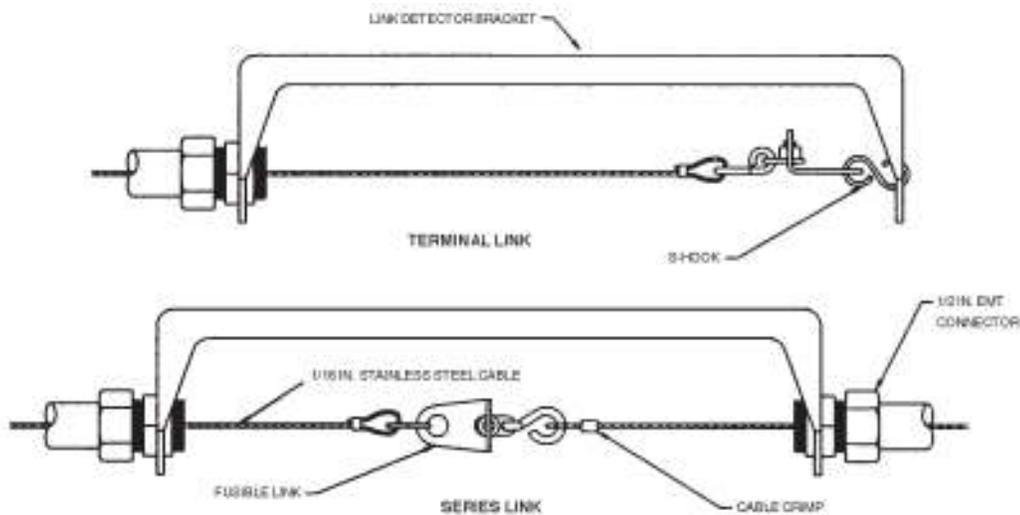

Figure 2-10. Model FLK-1 Fusible Link
- ▶ The Model FLK-1 fusible link kit includes a 10 in. steel bracket, two (2) 1/2 in. EMT connectors, two (2) cable crimps, and two (2) “S” hooks. Fusible links must be ordered separately. See Figure 2-10.